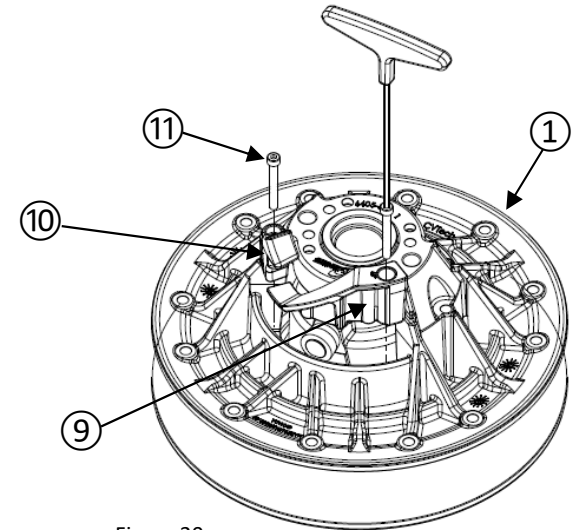

Figure 20
- Using the 3mm hexagonal key, remove the 4 retaining screws (11) of the 2 forward ramps (9) and the 2 helix (10) from the fixed sheave (1) (figure 20).
- Remove the 2 forward ramps (9) and the 2 helix (10).
- Disassemble the 2 sheaves (1) and (2).